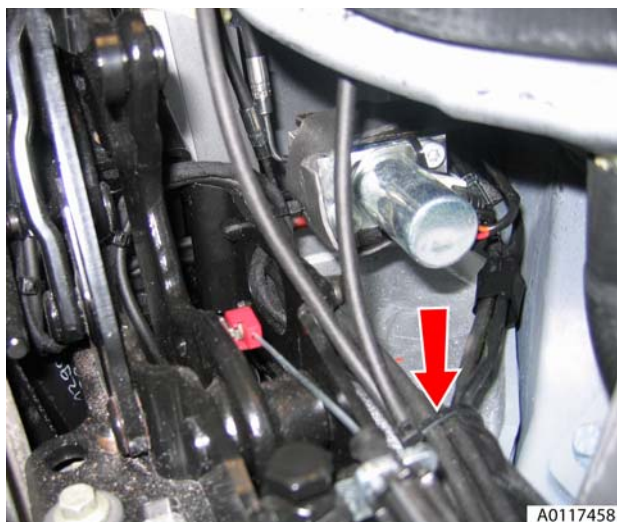

Figure 9
17. Remove cable ties and remove pipe from vehicle (see Figure 9).